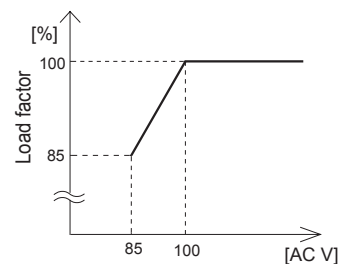

Fig. 6.2 Input voltage derating curve
■Input voltage derating curve is shown in Fig.6.2.